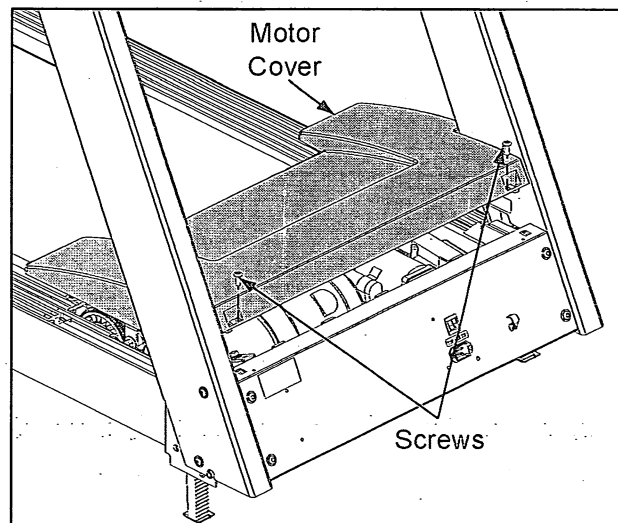

Figure 9
- A. Place the motor cover in position on the base. See Figure 9.
- B. Using a Phillips head screwdriver, tighten the two screws to fasten the motor cover to the base. See Figure 9.